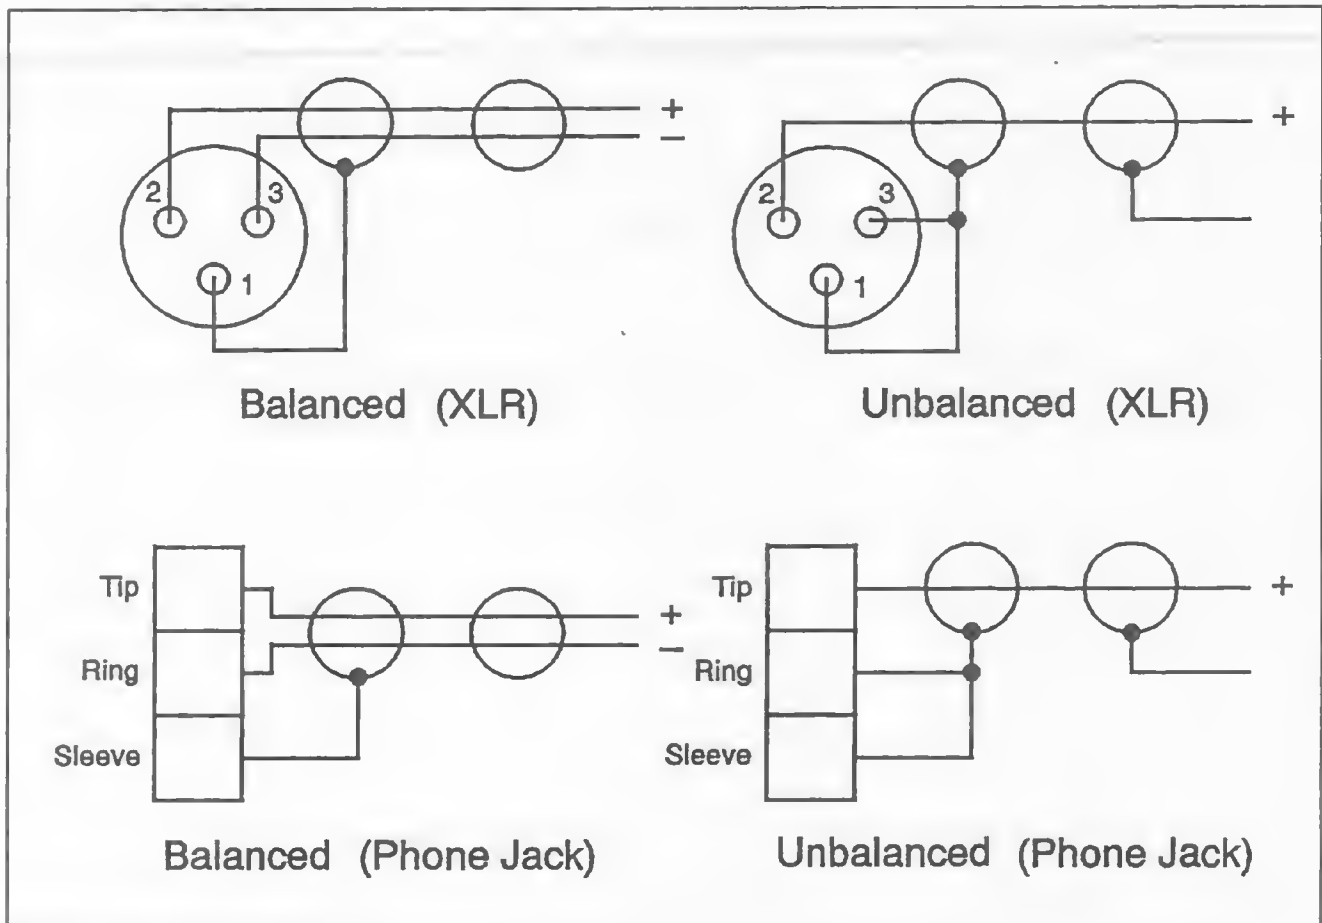

Figure 1 Input Connections
2. Verify that the input connections are properly made. Refer to Figure 1.